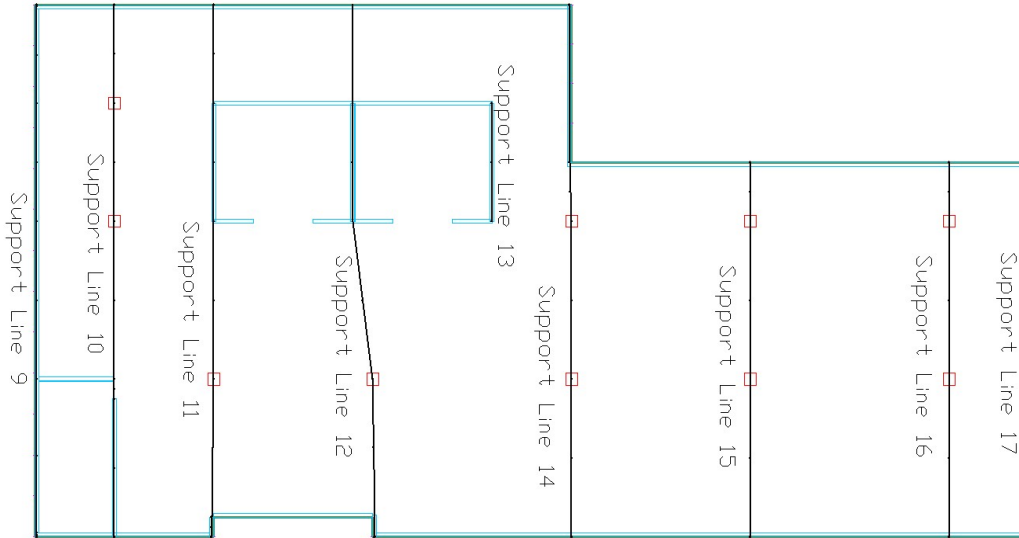

Figure 4.1-3 - Support Lines and Splitters in Y-direction
- Using the approach described above for the X-direction, draw support lines in **Y-direction**. **Figure 4.1-3** shows the layout of the Y-direction support lines once they have been entered in the model.